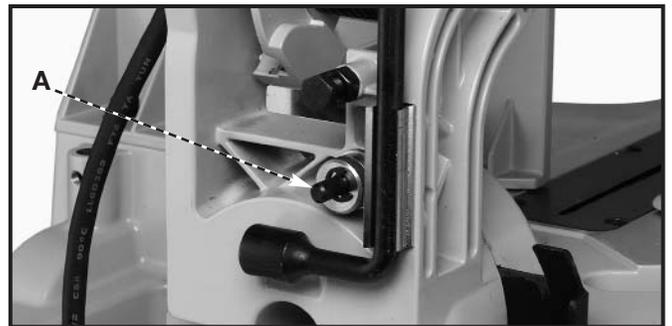

Fig. 28
NOTE: To perform a bevel cut more than 45°, pull bevel pin (B) Fig. 28 out to bypass the bevel detent plate. 48° is possible.